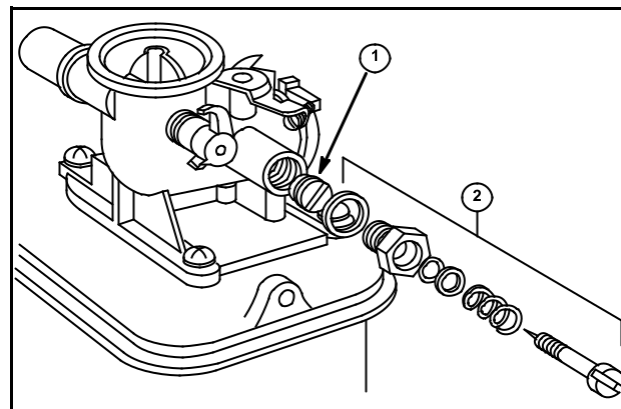

Fig. 48
Install Needle Valve Assembly, Screw-in Type (Fig. 48)
1. Install needle valve seat (1) being sure not to cause burrs in slot.
3. Install needle valve assembly (2), Fig. 48.